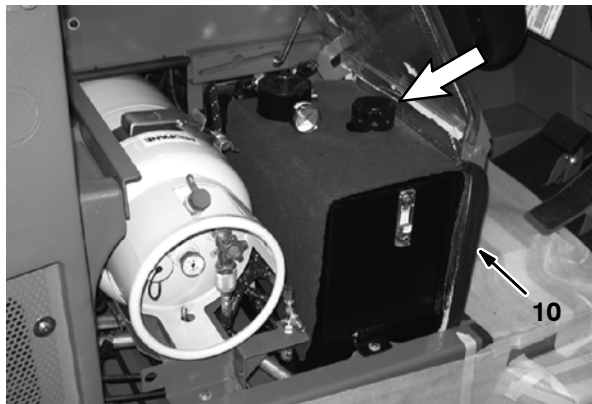

FIG. 8
20. Remove the cap from the hydraulic reservoir. Refer to Fig. 8.
21. Install the thermal insulation blanket (10) over the hydraulic reservoir and reinstall the cap onto the hydraulic reservoir. Refer to Fig. 8.